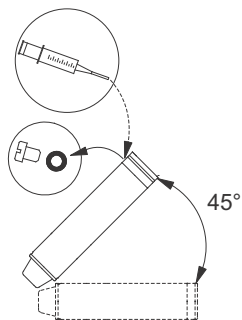

Fig. 4 Motor position during filling, MS 6000C
- If the motor is delivered from stock, the liquid level must be checked before the motor is fitted to the pump. See fig. 4.
- In the case of service, the liquid level must be checked. See fig. 4.
1. Position the submersible pump as shown in fig. 4.
3. Inject liquid into the motor with the filling syringe (see fig. 4) until the liquid runs back out of the filling hole.